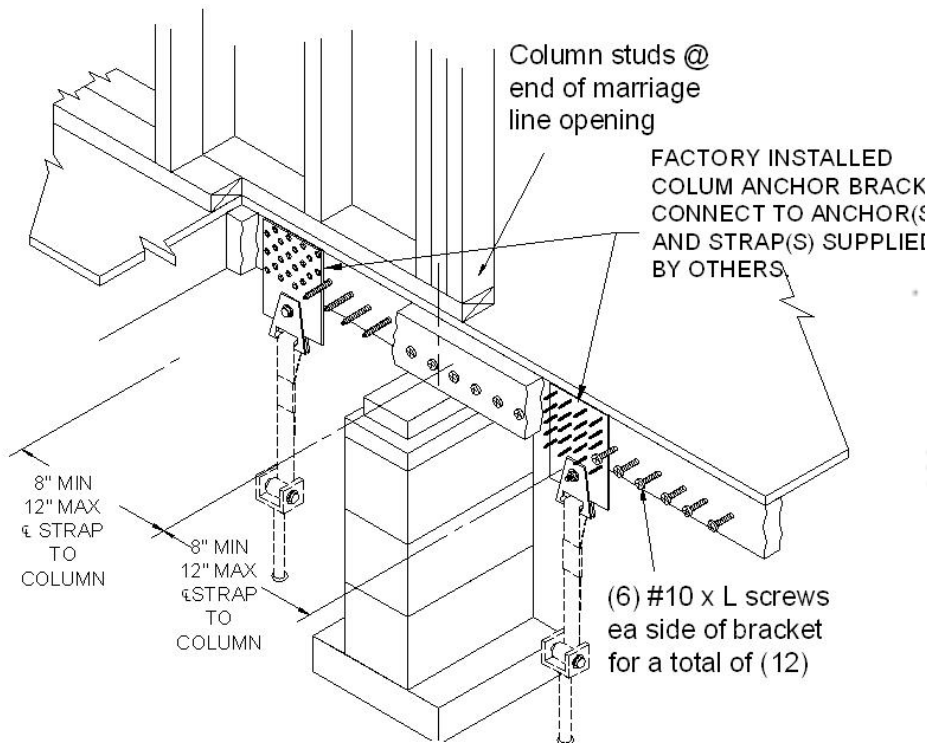

Figure 64 Marriage Wall Column Anchoring
*Required brackets have been factory installed at their proper location and number of brackets required. In addition to installing anchor(s) and strap(s) at these locations, the marriage line rim joists of adjacent sections must be fastened together with #10 Wood Screws, long enough to penetrate receiving member 1 1/2". Install (6) screws each side of bracket(s). **Figure 64***
Porch posts have factory installed brackets that must connect to anchors with straps. Brackets are the same as shown in Figure 64, but need not be connected into adjacent marriage wall rim joists.